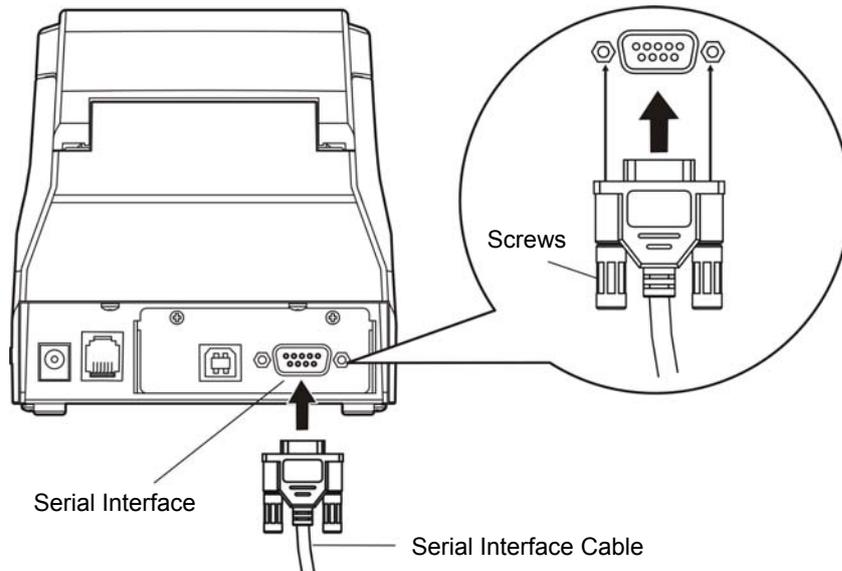

Figure 2-5 Connecting the serial interface cable
1. Make sure the computer and the printer are both turned off, connect the serial interface cable to the connector of the printer. Tighten the connector screws as shown in Figure 2-5.